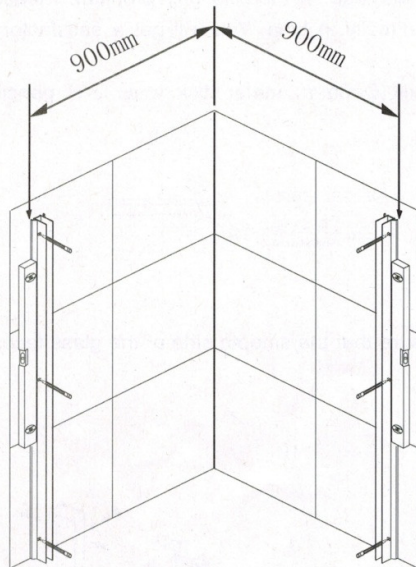

Fig. 1
- 1). Put the wall profiles on the walls, keep the distance between profiles and wall is 900mm. adjusting the profiles to make sure it is vertical. Mark the holes on the wall. As FIG.1